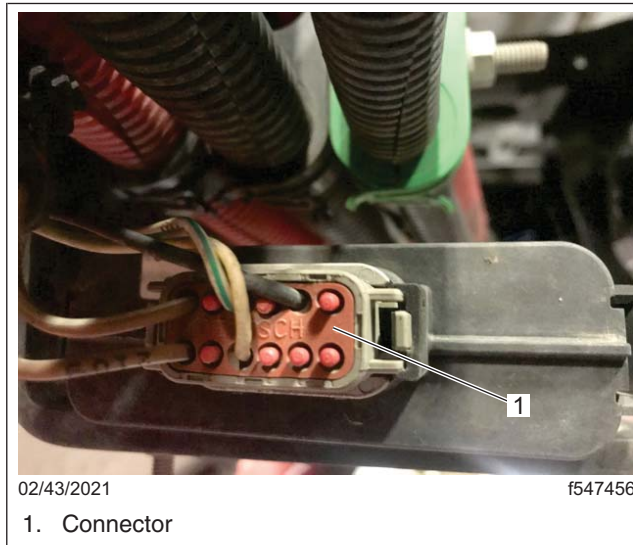

Fig. 2, TPMS Module Connector
3. Disconnect the wiring harness connector from the TPMS module. See Fig. 2.